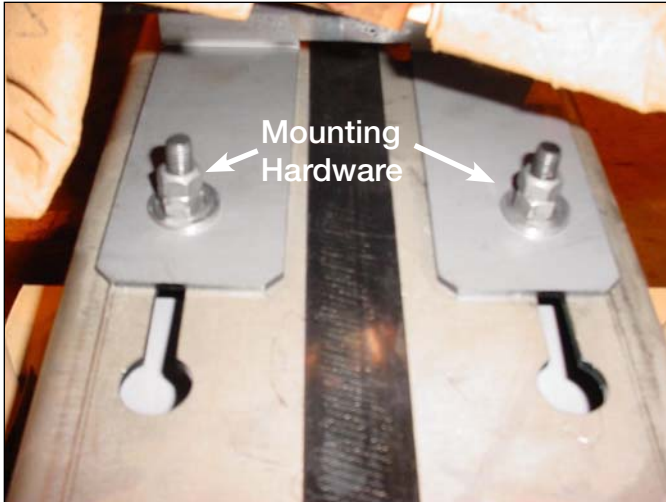

Figure 8.
- Remove the mounting bolts fastening the tap changer-mounting bracket to the top core clamp. See Figure 8. Remove the tap changer from the regulator and place on a work surface.